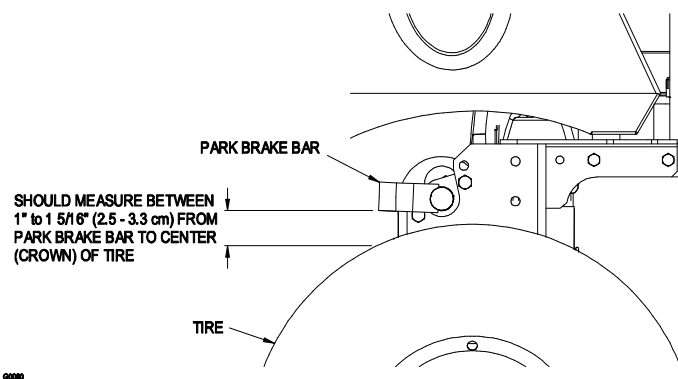

FIGURE 12
- c) Remove the hairpin in park brake linkage at the rear of the unit. Turn the linkage in the yoke until the distance from the lower front corner of the brake bar measured vertically to the crown of the tire is 1"(2.5 cm) to 1 5/16"(3.3 cm) with the park brake disengaged. Re-install the hairpin. See Figure 12.